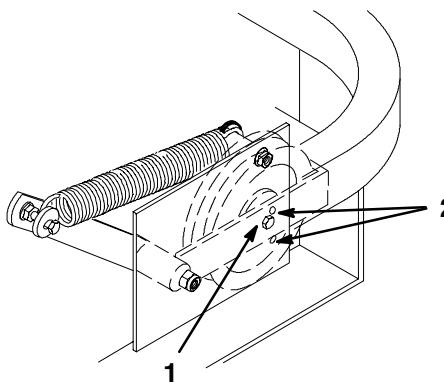

Figure 53
6. Check belt tension. The center bolt of spring loaded idler must be between the two alignment holes in left support plate (Fig 53).
Check position of center bolt in a High Height of Cut. The center bolt must be at or above the lower adjustment hole (Fig 53).
8. Check belt tension again. The center bolt of spring loaded idler must be between the two alignment holes in left support plate (Fig 53). Adjust, if necessary, and tighten all hardware securely.